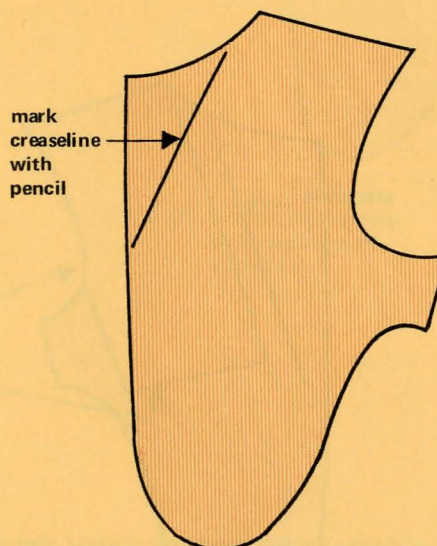

Fig. 7. 1st layer of
1. The first layer serves as the base and is cut from the interfacing pattern. This layer should be cut from the canvas. Mark the creaseline with pencil on this layer (Fig. 7). Place this layer out on a flat surface and position the other layers upon it before final assembly.